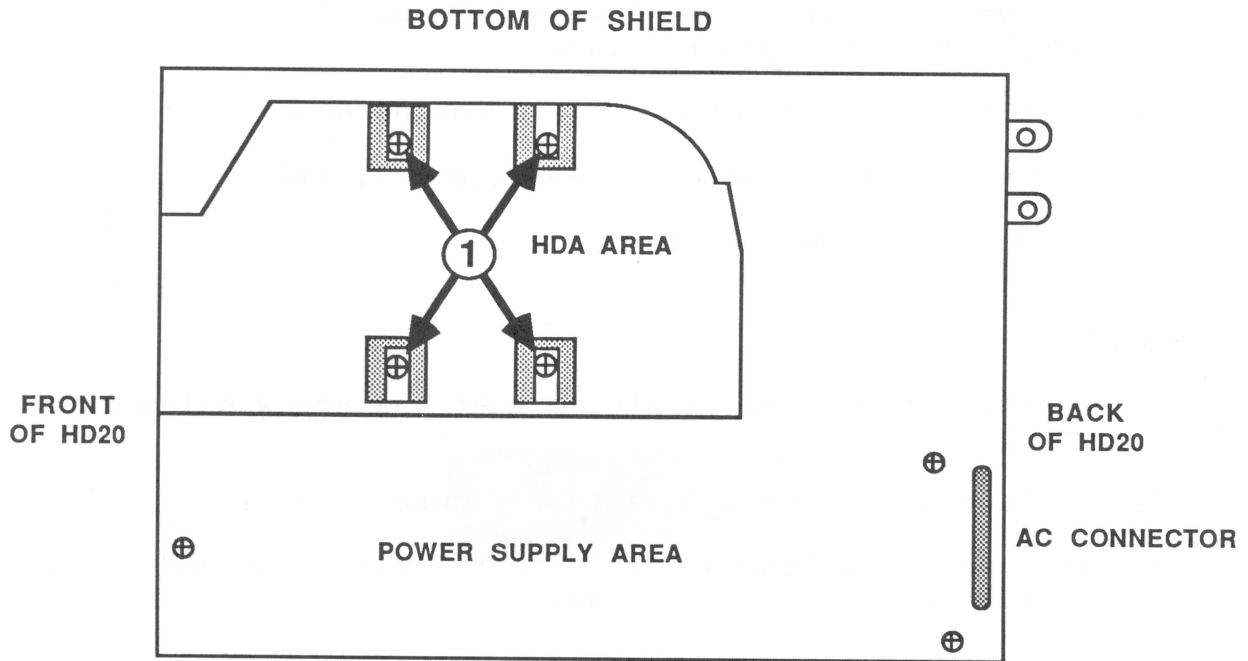

FIGURE 8
6. Remove the four screws (see Figure 8, #1).
2. Replace the four screws (see Figure 8, #1).